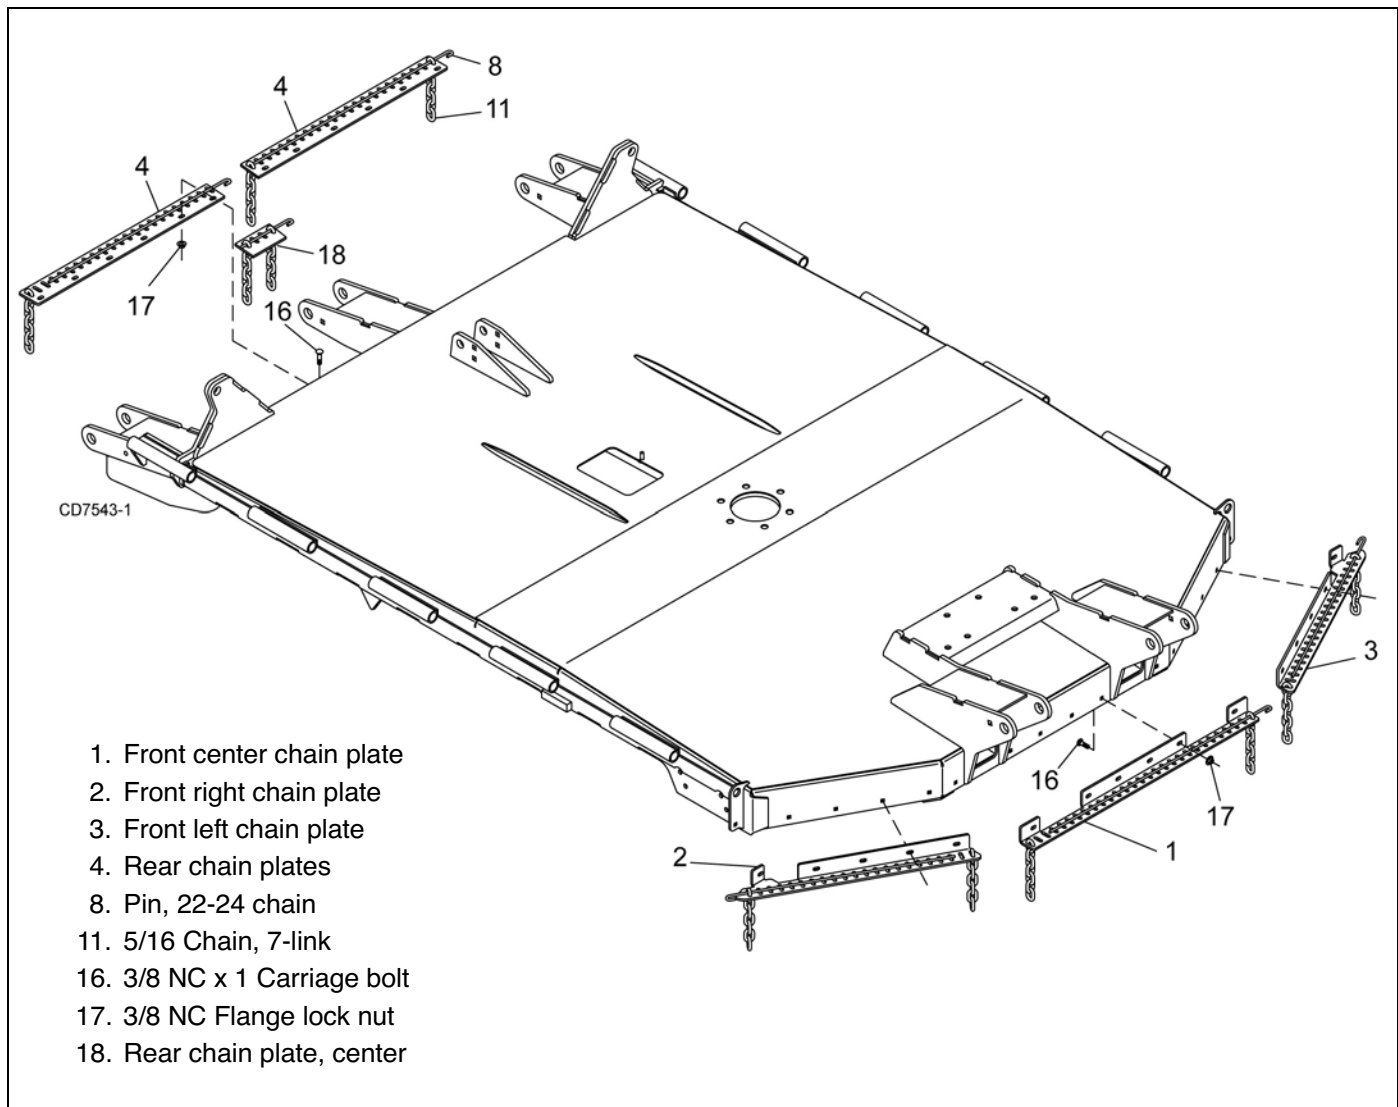
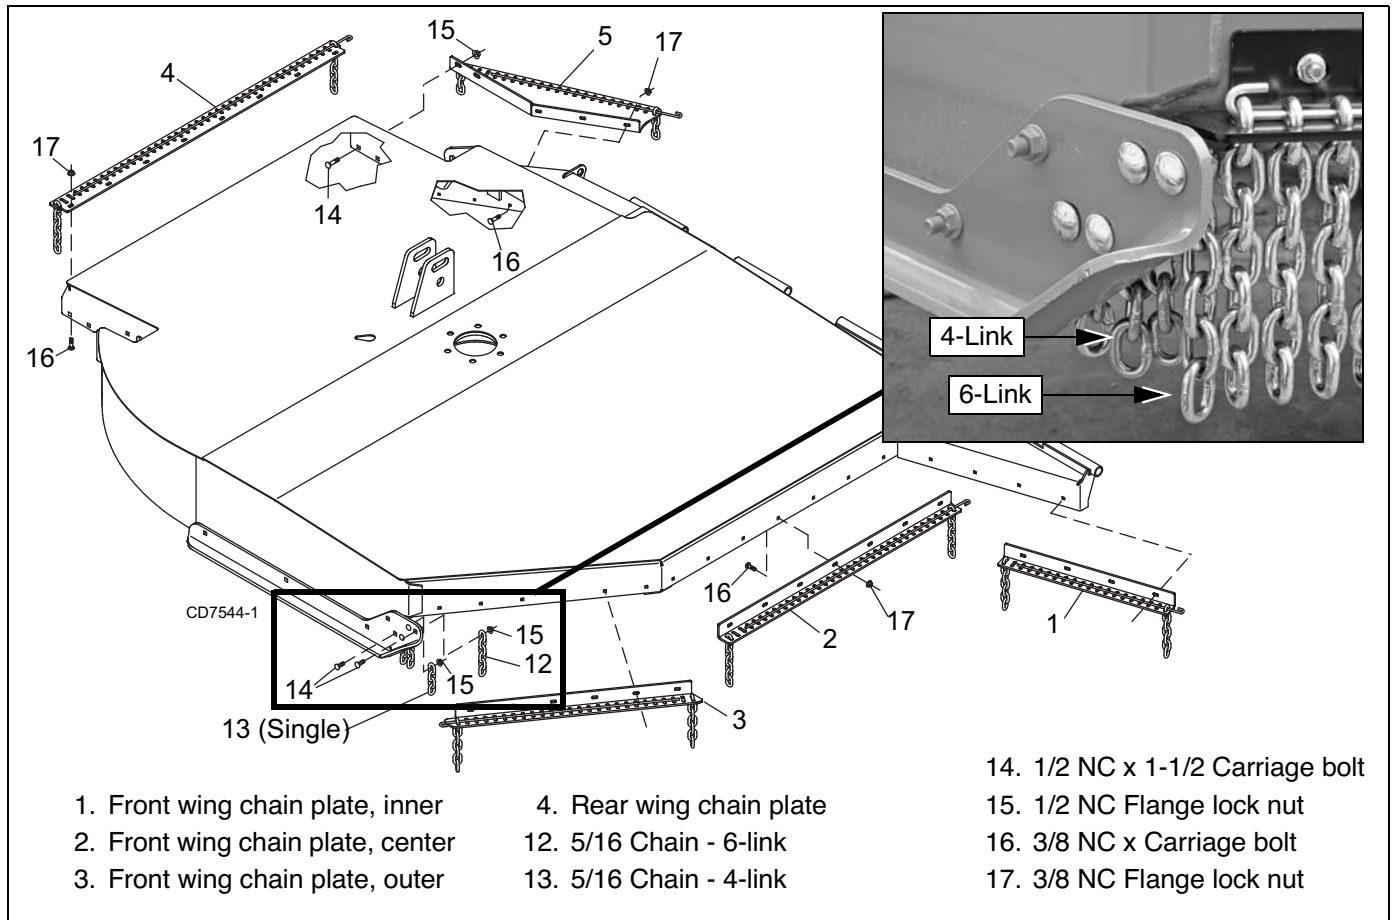
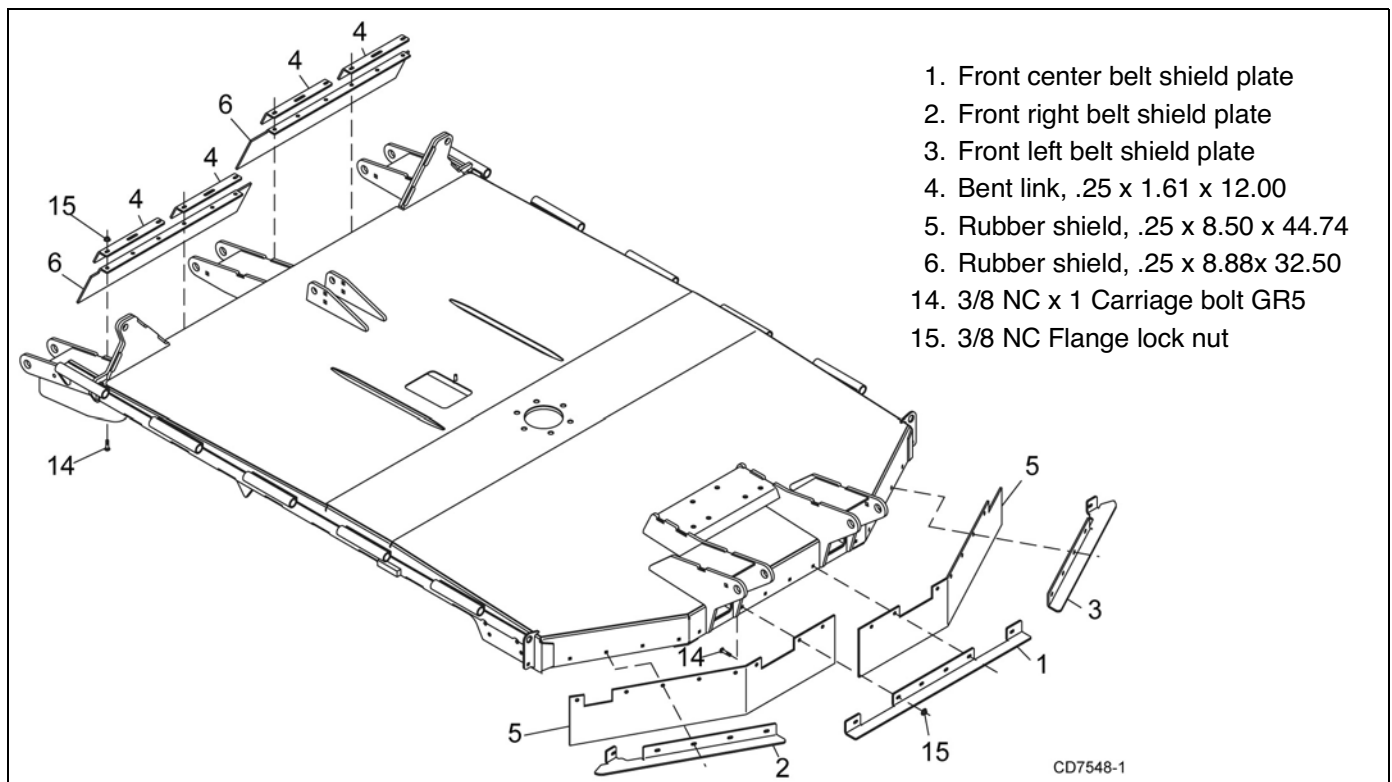
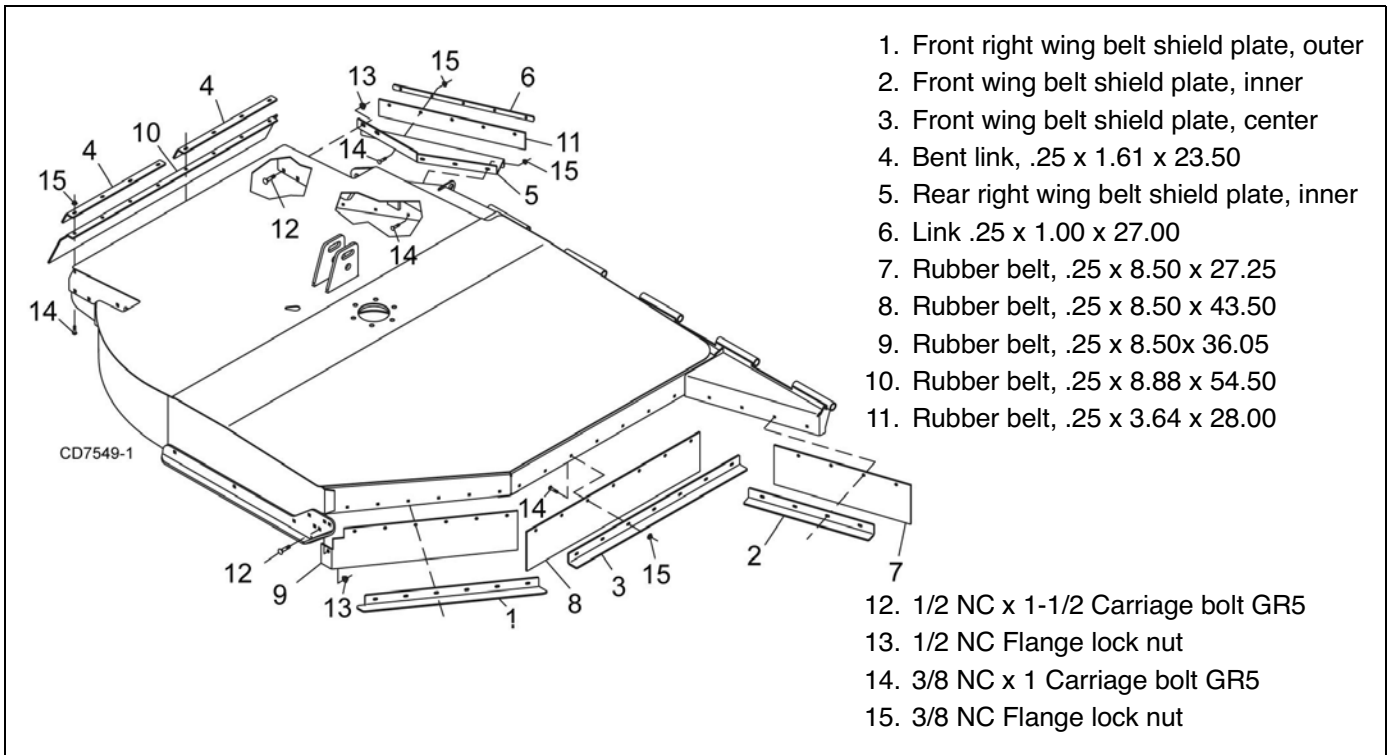

Figure 35. Chain Shielding Installation - Center Section
Figure 36. Chain Shielding Installation - Right Wing Shown
Figure 37. Belt Shielding Installation - Center Section
Figure 38. Belt Shielding Installation - Right Wing
Install chain and rubber shields with hardware as shown. (Refer to Figure 35 and Figure 36 for Chain Shielding Installation; Figure 37 and Figure 38 for Belt Shielding Installation.)
NOTE: CHAIN SHIELDING - Center Section: Attach rear chain plates (4) to the top of center section. Attach center chain plate (18) to the bottom of the center section. **Wing:** Install four (two per wing) 6-link chain sections (12) and four (two per wing) 4-link chain sections (13) to the wing skid shoes. Secure with carriage bolts (14) and flange lock nuts (15). See Figure 36.